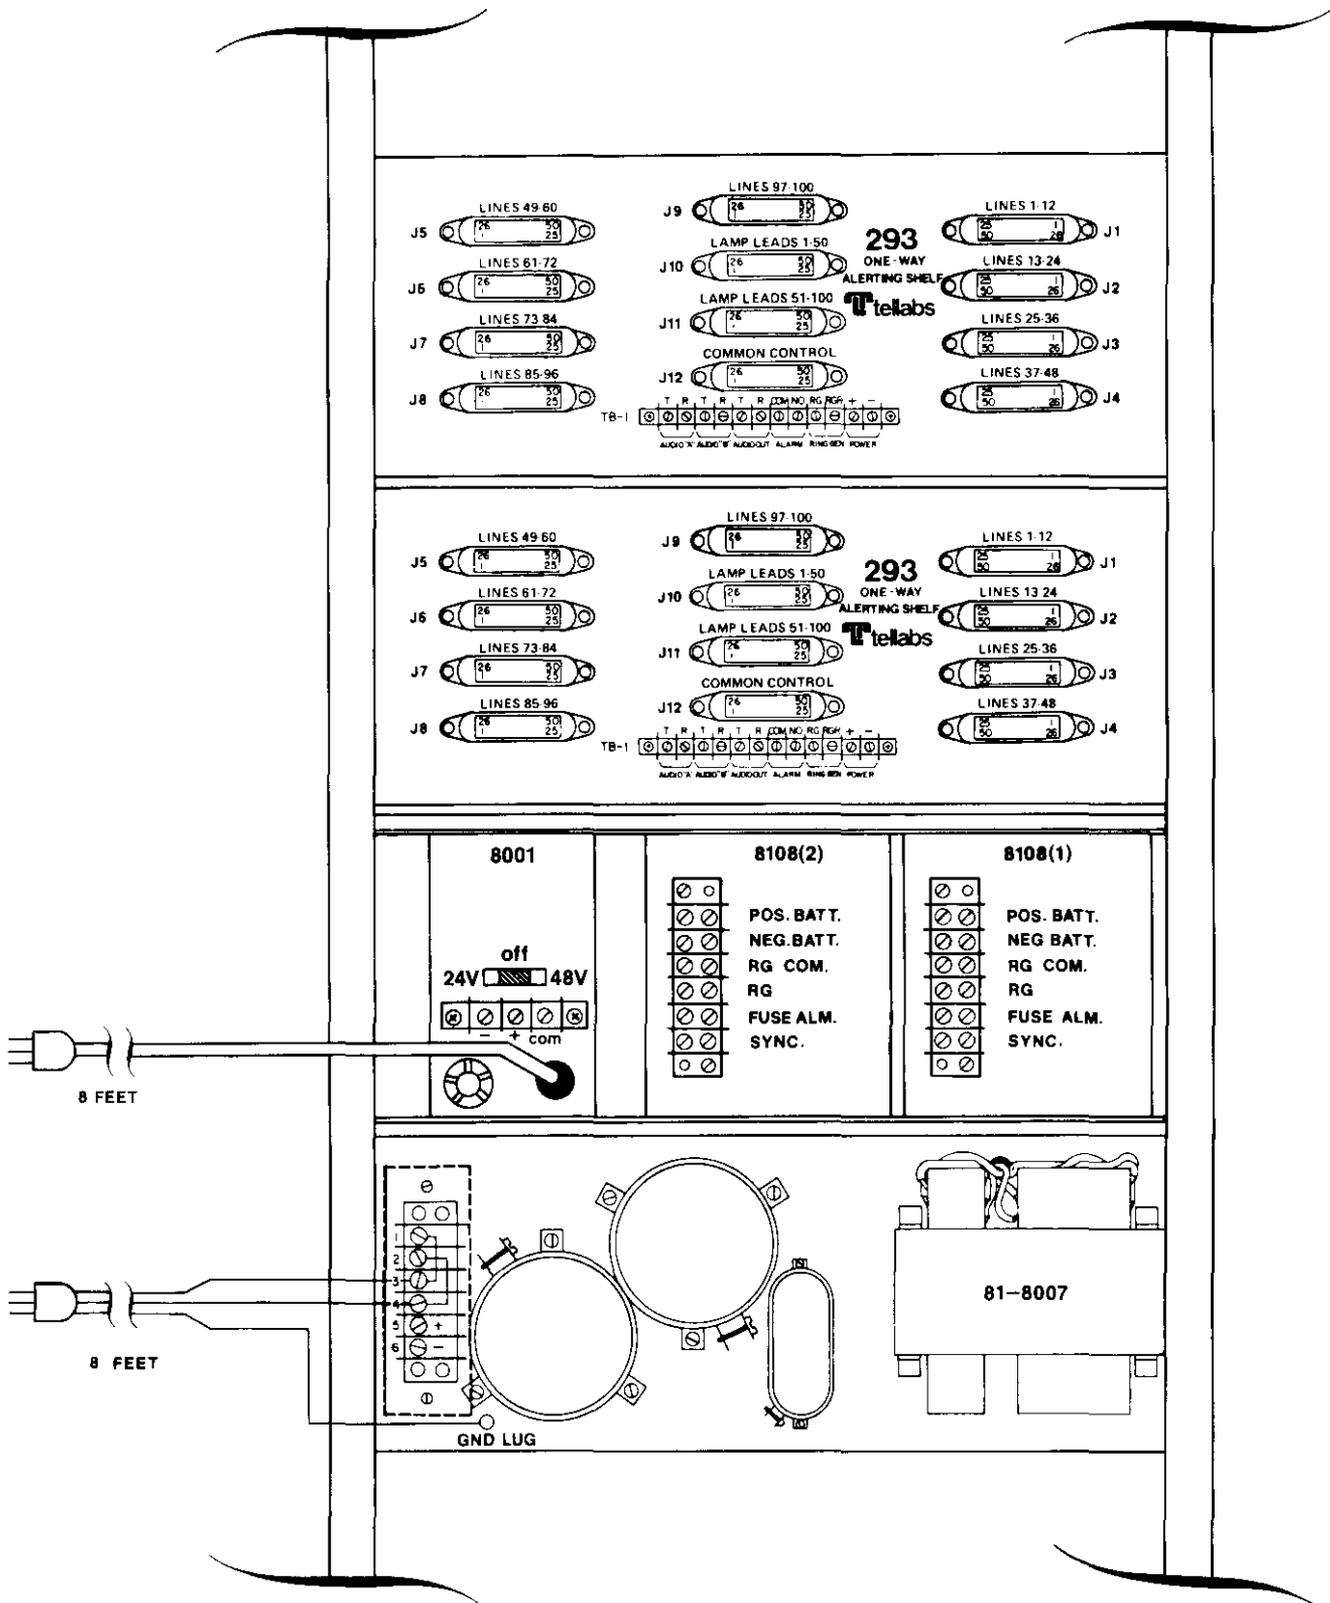

figure 2. Typical 200-line 293 System
2.08 The required mounting arrangement for this typical 293 System's equipment is shown in figure 2. The two 293 Mounting Assemblies mount at the top of the equipment rack. The ringing generators and power supplies mount below the last (lowermost) equipment shelf.